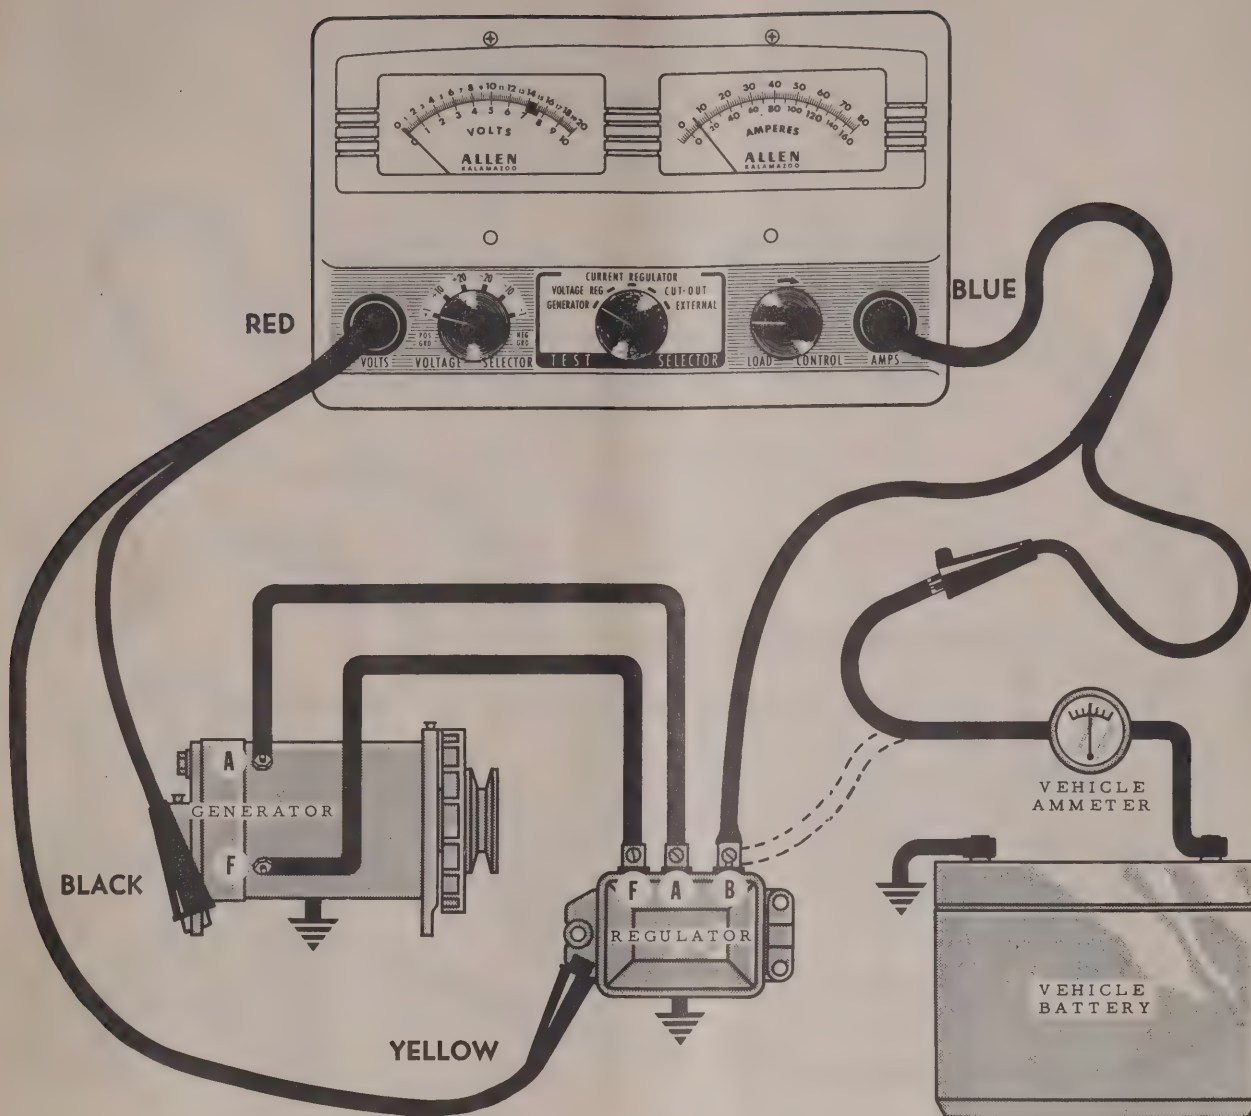

FIG. 4
2. Make connections as shown, Figure 4.